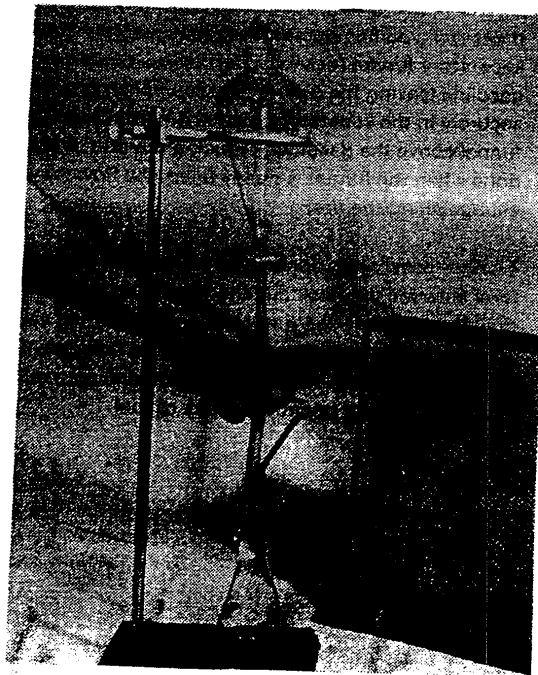

Figure 16.
1. Set up the ring stand, separatory funnel, interconnecting hose, stopper, vent tube and flask, as shown in Figure 16.